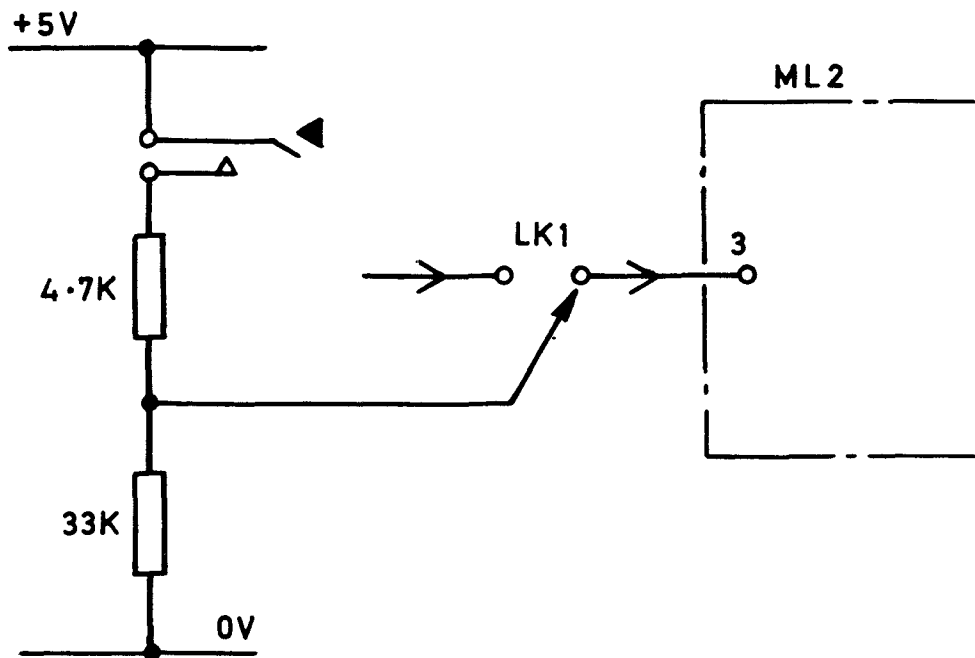

Fig.1 Manual clock-pulse
6. (1) Switch OFF. Carefully unsolder link LK1. Make the connections shown in fig.1 and then switch ON again.